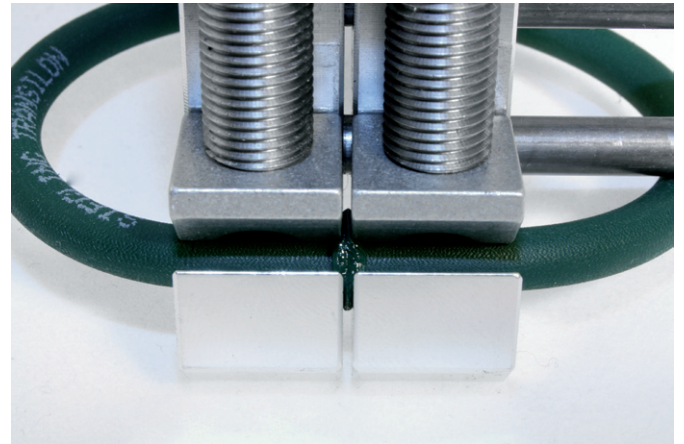

Fig. 7
- 7 Allow the welded joint to cool down for approx. 3 minutes (Fig. 7) (with belts  $\geq 8$  mm diameter, support this process with cold water).